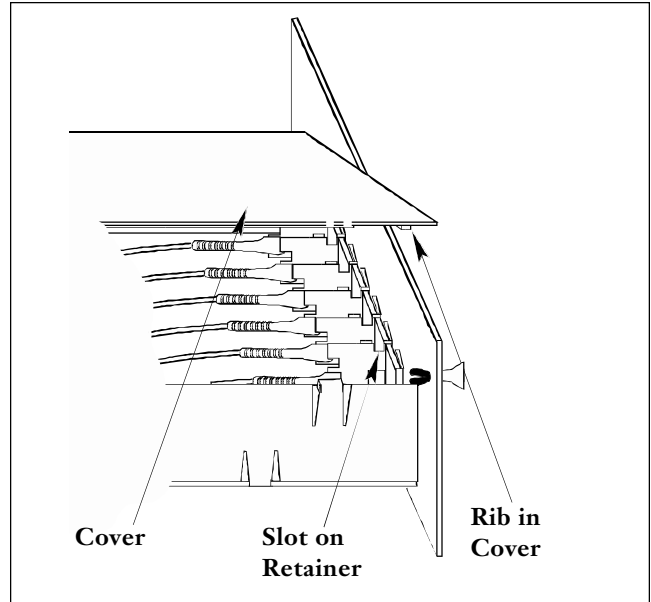

Figure 16
11.8 Replace the cover by snapping it into place. Notice that the rib on the bottom-front of the cover fits into slots in the connector retainers (Figure 16). When the cover snaps into place, this rib secures the retainers. If the cover does not snap into place with ease, check to make sure all the retainers are seated and the slots line up.